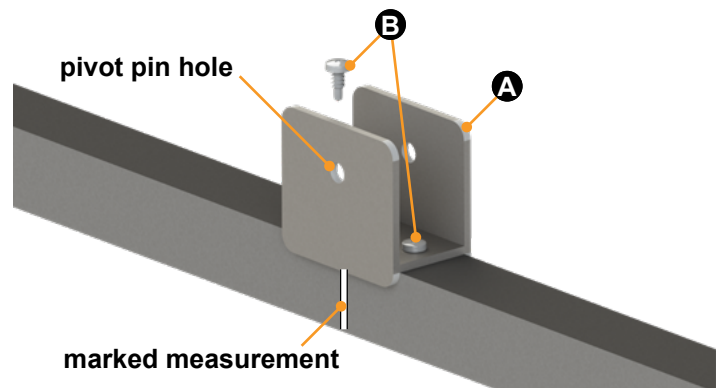

Fig.25
- C. Place the two rear support tube H-brackets (Fig.25A) at the previously marked locations (step 1.A or B), aligning the center of the pivot pin hole with the marked measurement (Fig.25).